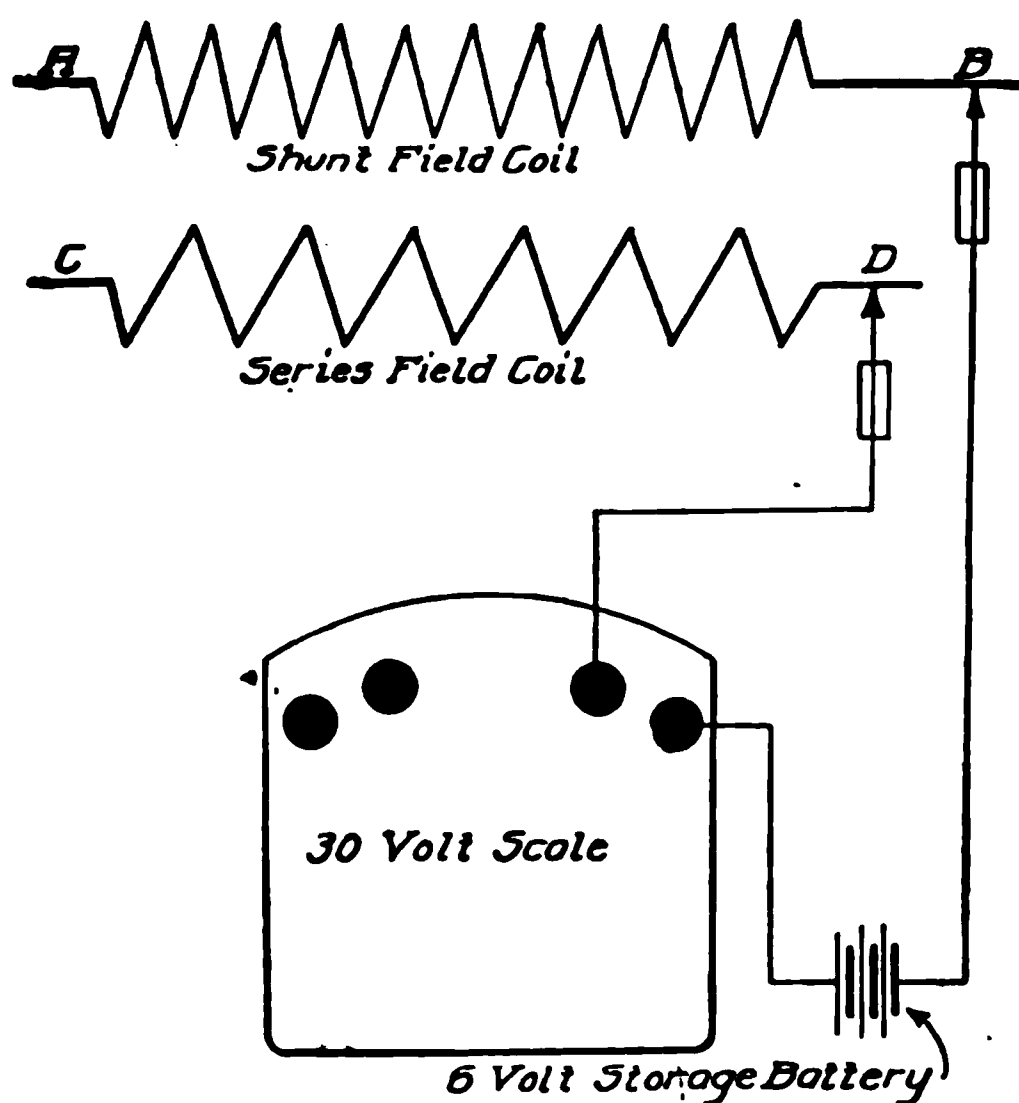

Fig. 273. Voltmeter Test Diagram for Short-Circuit between Coils
*Short-Circuits between Coils.* The test for short-circuits between coils is similar to that shown in Fig. 265 and naturally applies to all lighting generators where the two windings of the fields are concerned. Place one end, or point, on the terminal of one winding and the other end on the terminal of the other winding, as shown in Fig. 273. If there is no connection between the coils, as should be the case, the voltmeter needle will remain stationary. Any movement of the voltmeter needle indicates a short-circuit and the greater the value of the reading, the more complete is the short-circuit between the two coils.